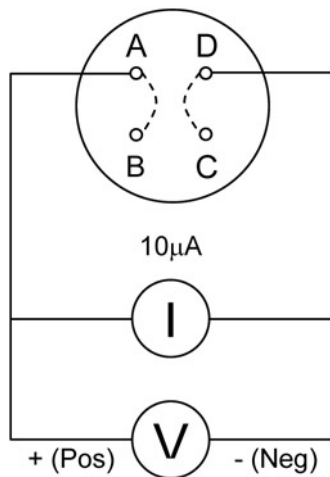

Figure 17 Check the Standard Silicon Diode
1. Connect the positive side of a 10-microamp DC current source to pin A of the diode connector. Connect the negative side to pin D. See Figure 17.